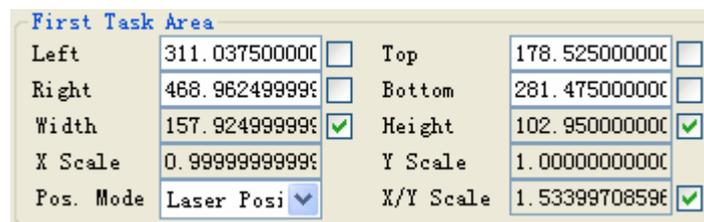

Figure 6-19 Set First Task Area
- The parameters after setting the first piece area likes the Figure 6-19 shows: